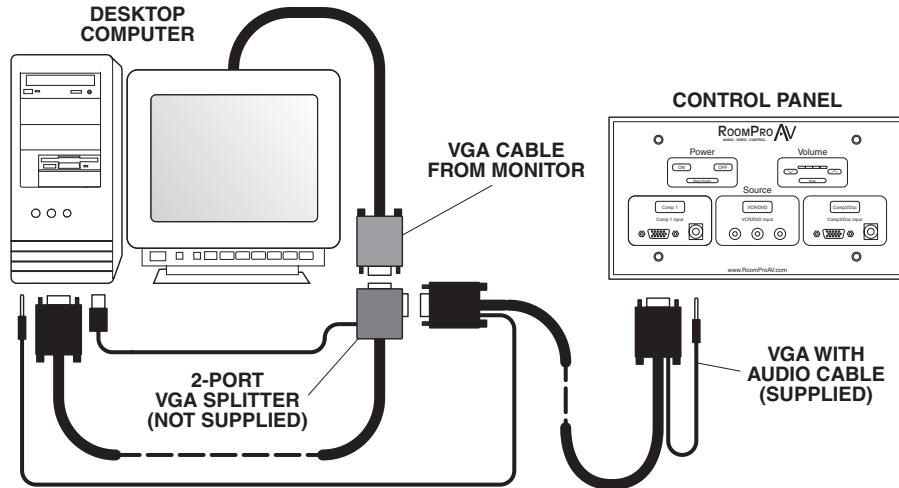

Figure 10 – Desktop Computer Connection
- **For desktop computers:** You will need a USB-powered 2-port VGA splitter (purchased separately). Connect the single-port end of the splitter to the video (monitor) output on the computer and connect the USB plug to the USB port of the computer. Next, connect the VGA cable from the computer monitor to the top port of the splitter. Then connect one end of the supplied VGA with Audio cable to the side port of the splitter and the audio output jack of the computer; connect the other end of the VGA with Audio cable to the Computer 1 video and audio input jacks of the Control Panel. See *Figure 10 – Desktop Computer Connection*.